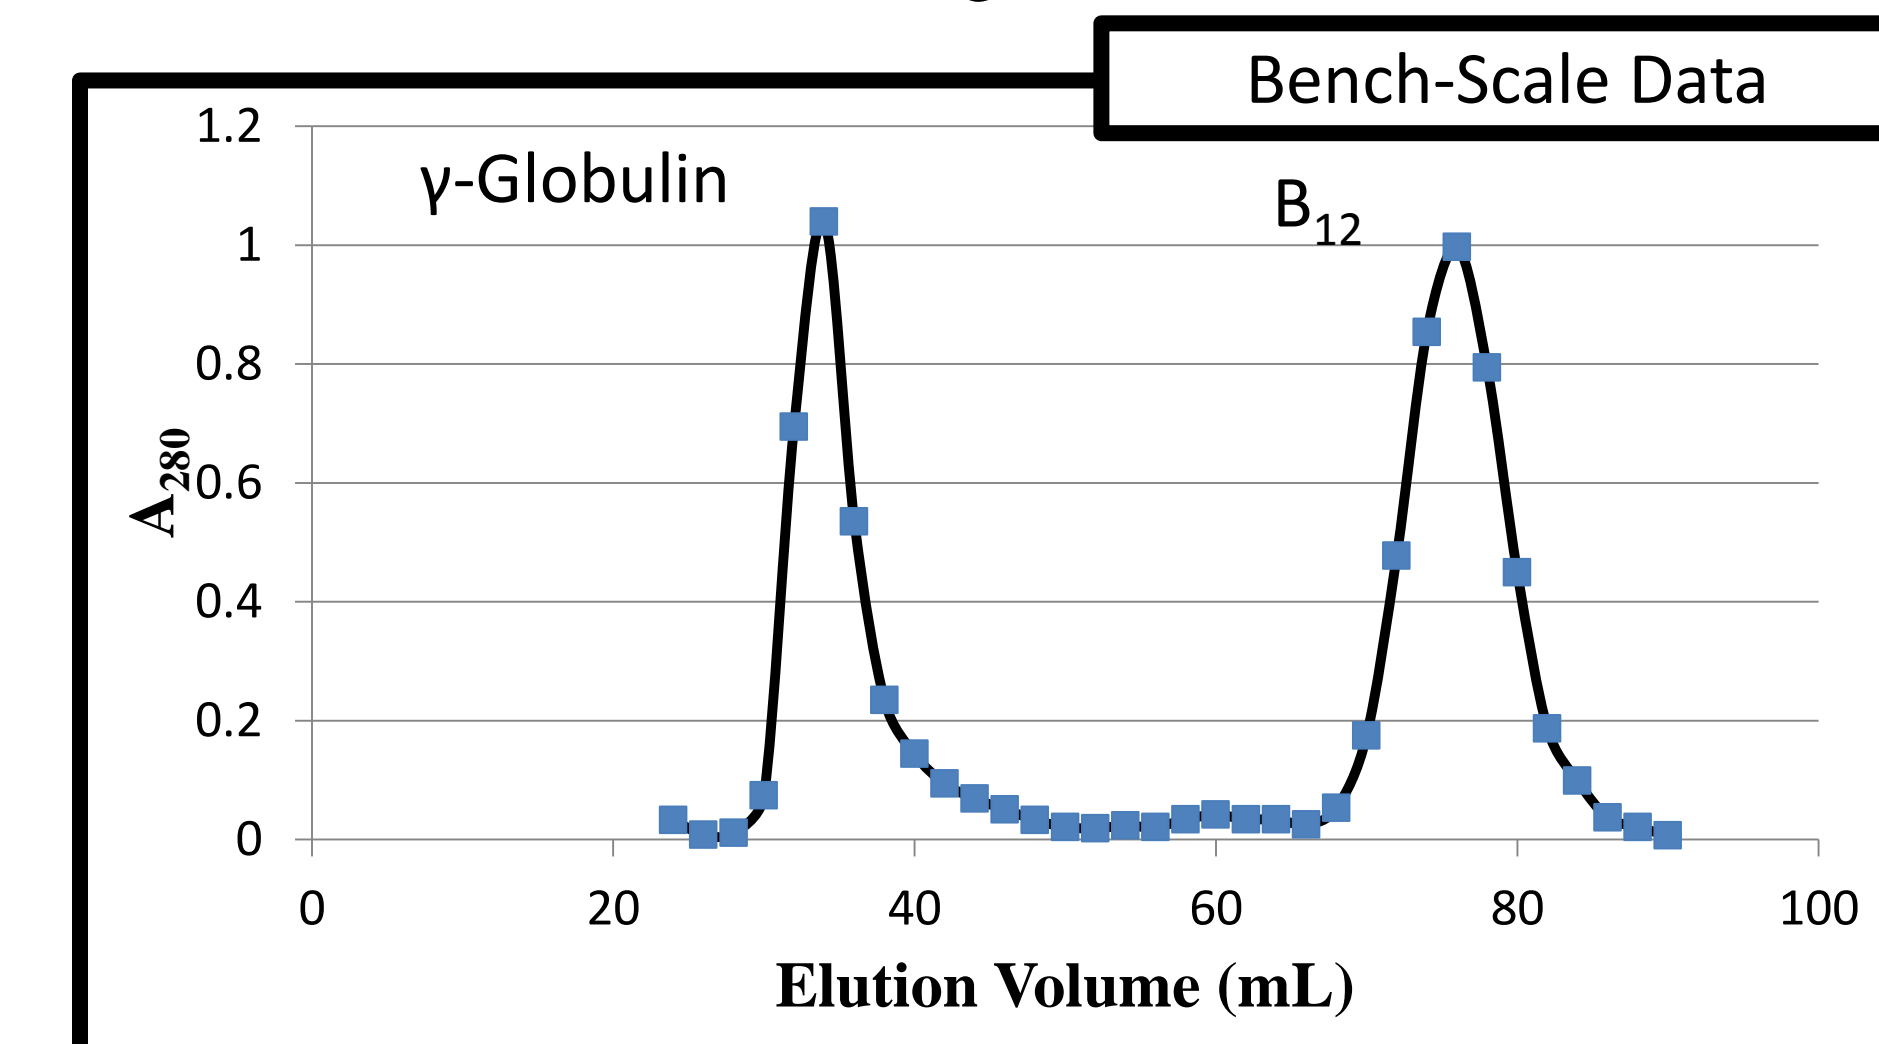

Figure 6. Elution Profile of Bench-Scale System in a 17 cm Bed Length SEC Column
- Results are shown in Figure 6.
- Some tailing is visible in Figures 6 and 8 (slow decline from peak), because the proteins are interacting with the resin molecules. Tailing can be reduced by increasing the ionic strength of the buffer.